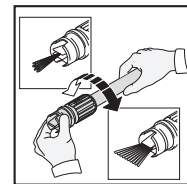

fig. 5
- The adjustable spray lance can be used for the widest variety of cleaning like sweeping leaves or debris from flat surfaces or curbing. The spray pattern and intensity can be controlled by twisting the spray nozzle at the far end of the lance (fig. 5).